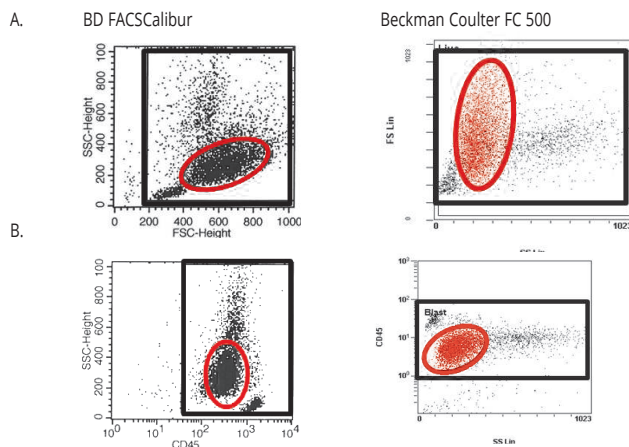

FIGURE 1. Gating methods used to obtain CD117, CD25 and CD71 reference values.
8. Analyze by flow cytometry by gating the abnormal cells and/or a total leukocyte "Live"[™] gate from a CD45/SSC or FSC/SSC plot. See Figure 1.